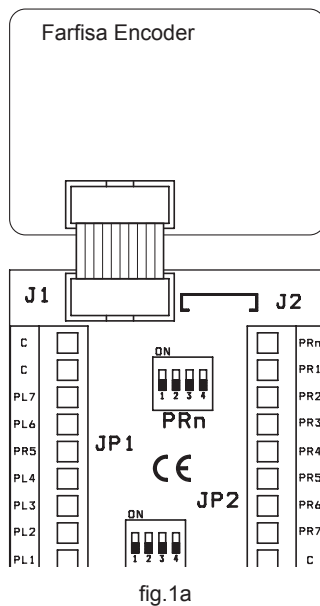
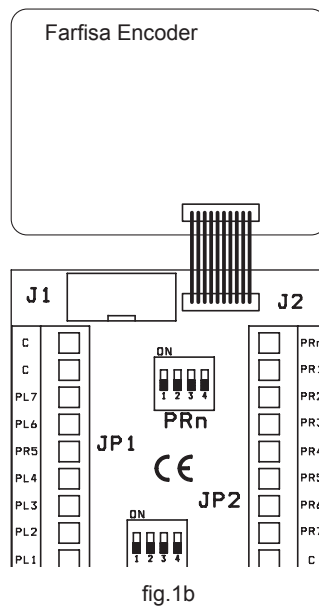

fig.1a
fig.1b
- Using the supplied cables, connect the board XT2928U to a Farfisa digital encoding module (use J1 or J2 according to the connector of the Farfisa encoding module; fig.1a or fig.1b).